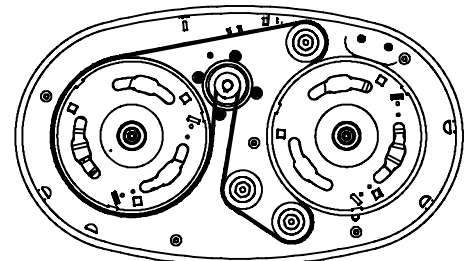

FIG. 69
5. Route the new belt as shown (Figure 69).